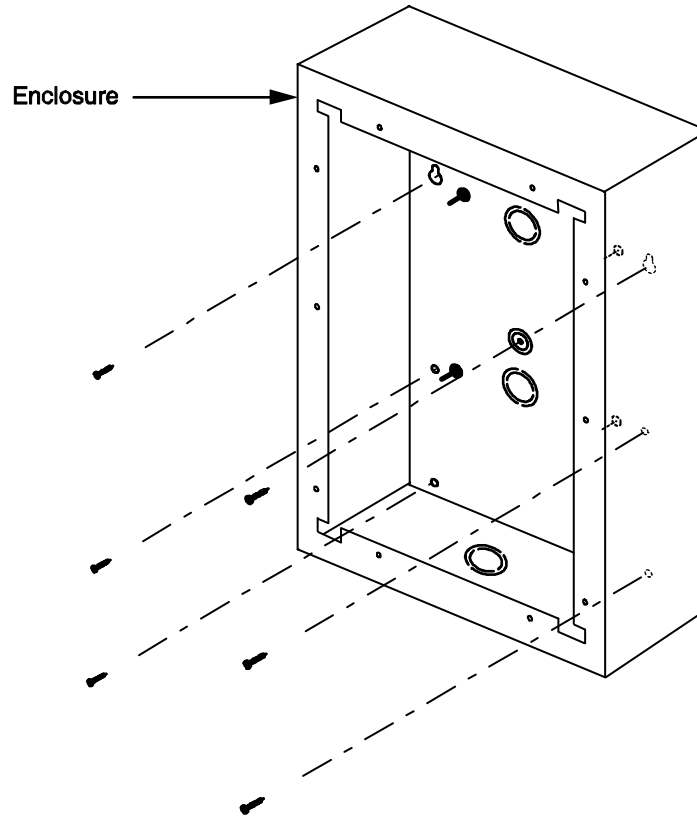

Figure 2. Touch Screen Surface Mount
The surface mount enclosure mounts on the wall as shown in Figure 2.
2. Using the surface mount enclosure as a template, mark the back mounting hole locations as indicated in Figure 2. Ensure that at least one side is over a wall stud.